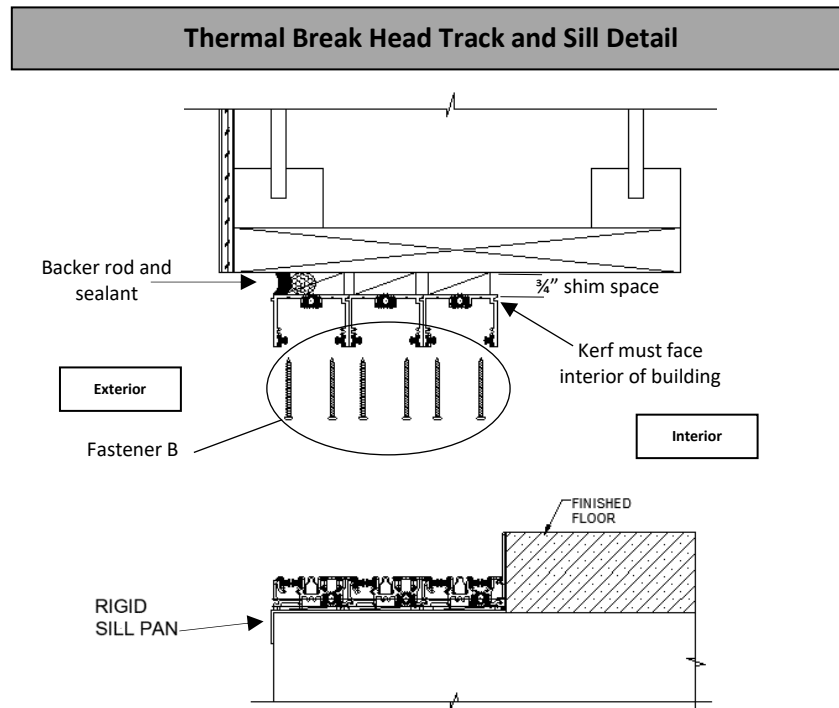

Figure 8
- 3.6 Continue installing remaining tracks, mounting them directly next to each other. Complete the installation by inserting backer rod into the cavity between the track and rough opening and sealing with polyurethane (see Figure 8).